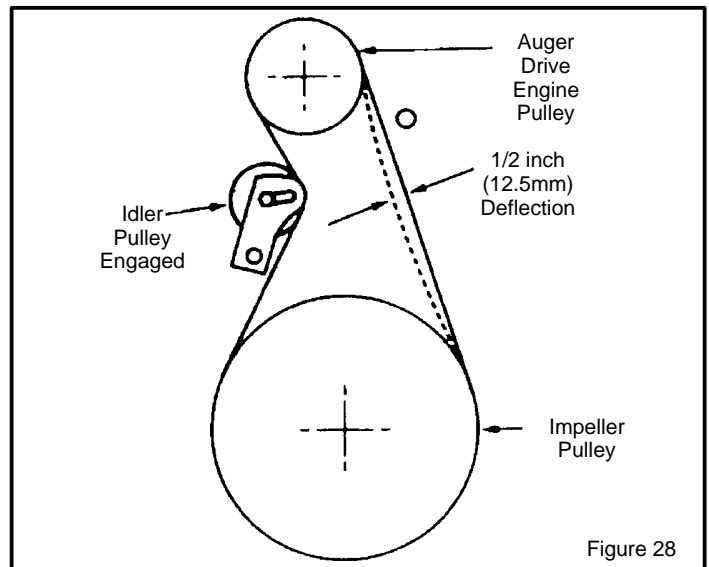

Figure 28
5. Have someone engage auger drive clutch. Check tension on belt (opposite idler pulley). Belt should deflect about 1/2 inch (12.5 mm) with moderate pressure (Figure 28). You may have to move idler pulley more than once to obtain the correct tension.